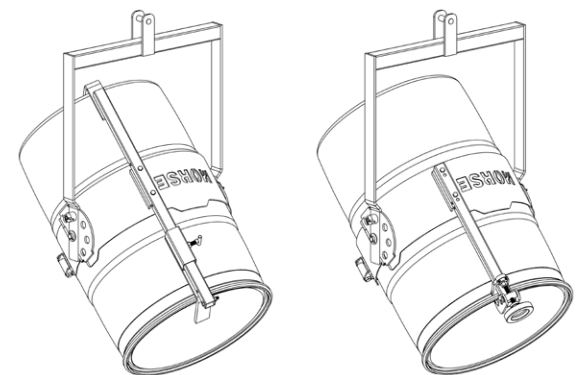

**Figure 2.1
- A smaller diameter drum can be handled with the correct size 55/30 Series Diameter Adaptor (see figure 2.1) installed (see Diameter Adaptor literature).